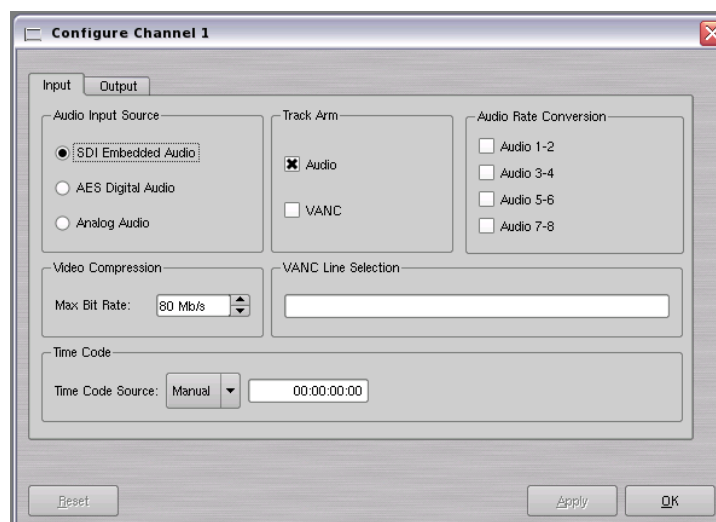

Figure 10 - Channel Configuration Dialog
Select **OPTIONS->CONFIGURE** from the Channel 1 Transport Window. The Dialog box in Figure 10 appears.
Refer again to Figure 10 - Channel Configuration Dialog. Under TRACK ARM, Check AUDIO if recording audio is desired. All eight tracks are recorded.
- Select **OPTIONS->CONFIGURE** from the Channel 1 Transport Window. The Dialog box in Figure 10 appears.